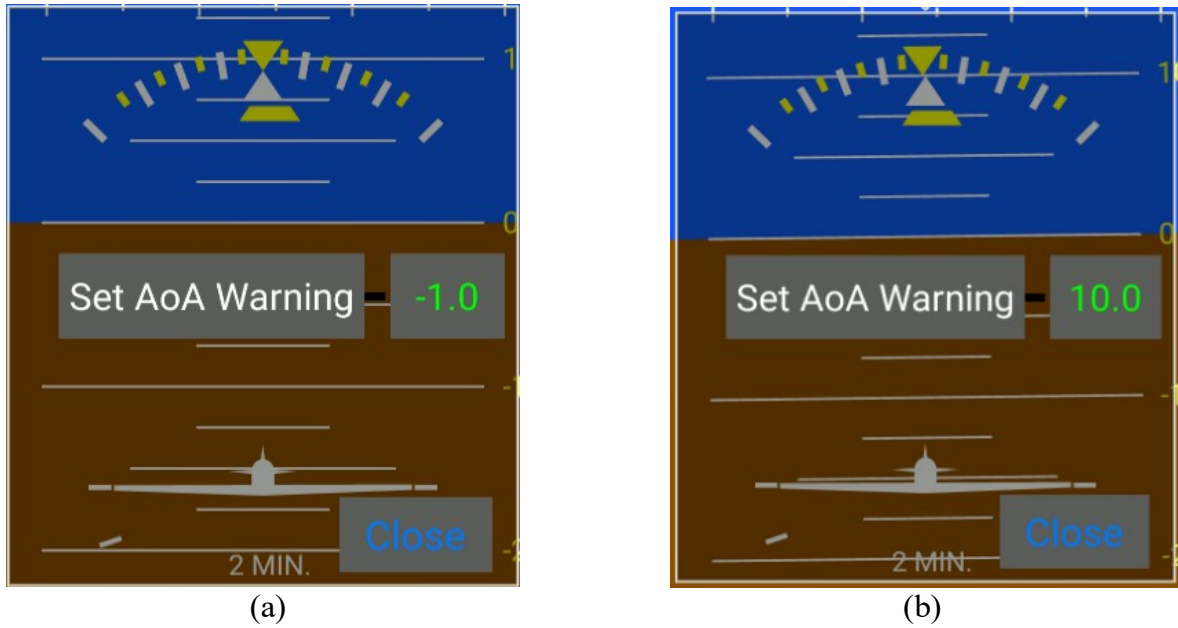

Figure 7: (a) Uncalibrated FlySense device. (b) Calibrated FlySense device (i.e. stall angle has been determined at 12° and warning angle has been set at 10°).
Step 1: Click on EFIS TA application “MENU” → “Miscellaneous” → “Calibrate AoA” option. This will bring up the window shown below in Figure 7(a); a value -1.0 in the mid-right part of the window signifies uncalibrated FlySense AoA.
Step 2: While in flight mode, gradually reduce aircraft speed, until stall buffet is reached and press the “Set AoA Warning” button. This will automatically determine and store the aircraft stall angle and will set the warning angle at a value of two degrees (2°) less. In the example case shown above in Fig 7(b), stall angle has been determined to be 12° and the warning angle has been set to 10° .